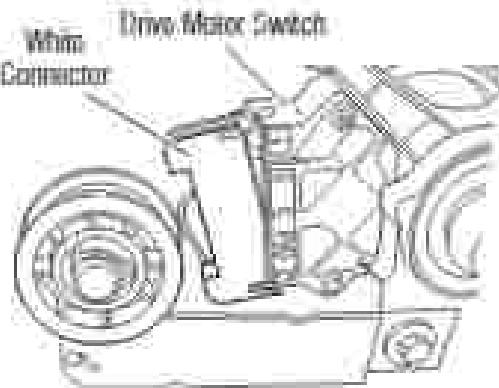

Figure 2 - Remove white connector.
- 6. Remove the white connector from the drive motor switch.** See figure 2.